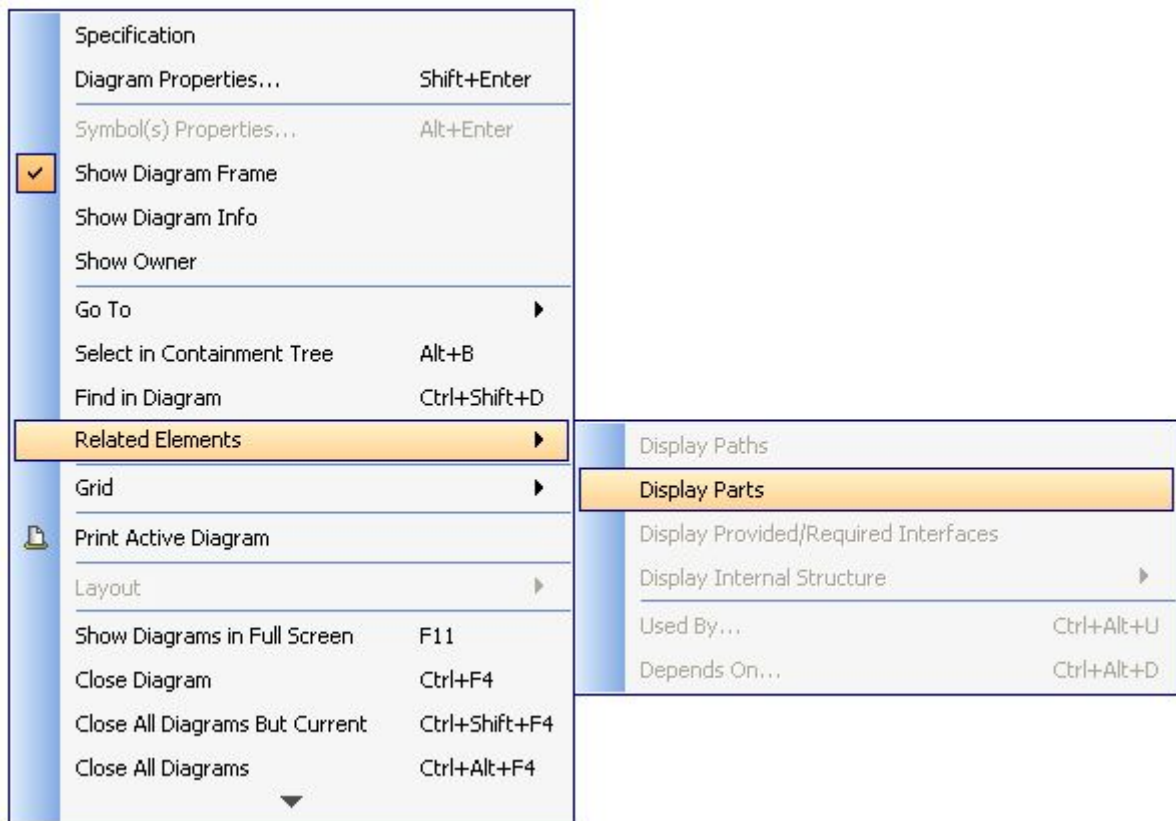
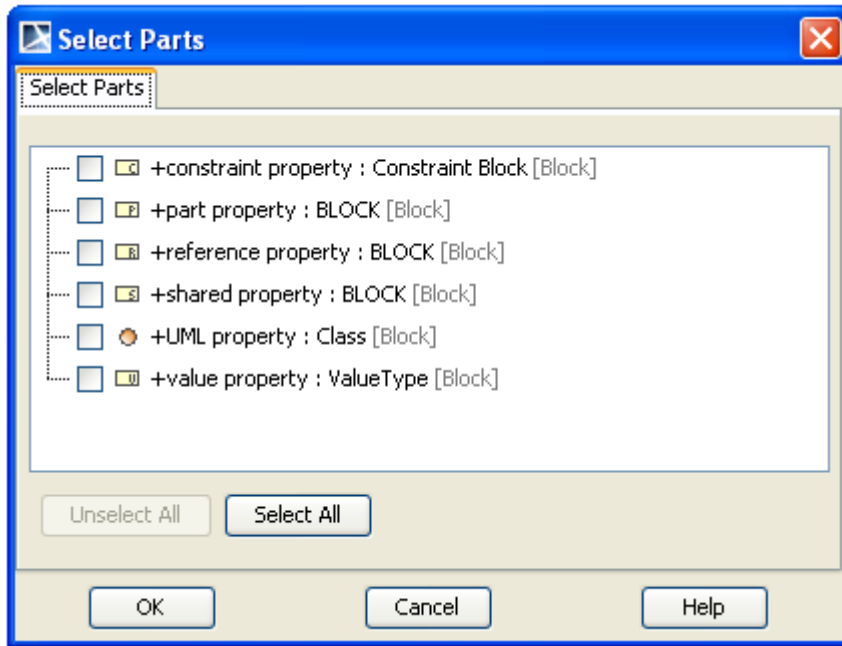

Figure 59 -- Diagram Shortcut Menu to Display Parts (Properties) of the Context of IBD
Figure 60 -- Select Parts Dialog
1. Right-click an IBD and select **Related Elements > Display Parts** (Figure 59). All the parts selected will be listed in the **Select Parts** dialog (Figure 60).
2. Select parts and click **OK** to show the selected parts in the IBD (Figure 60).